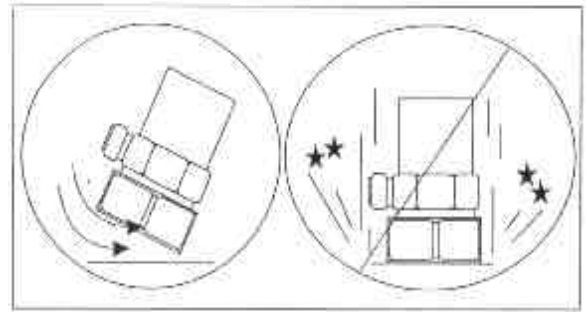

Figure 10. Magnet Mounting
STEP 4: Mount the magnet/sensor assembly to the prepared test surface by gently “rocking” or “sliding” it into place. (figure 10)